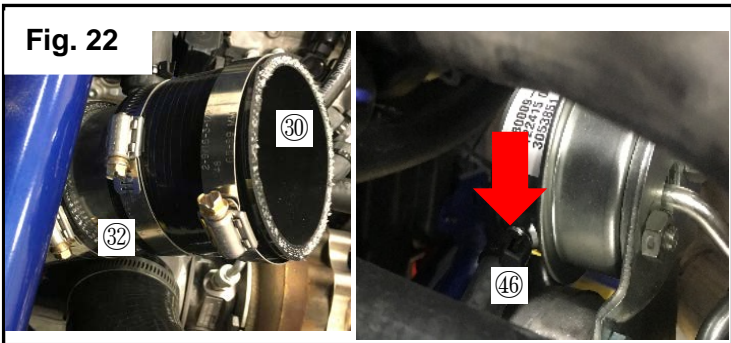

Fig. 22
- 31** Install the Silicone Straight Hose 3" ③① onto the aluminum tube ③② and secure with clamp ⑤⑨. Leave an extra clamp here for the airbox. Install the ¼" boost pressure hose ④⑥ onto the barb on the wastegate actuator. Secure with zip ties ⑥④. See Fig. 22.